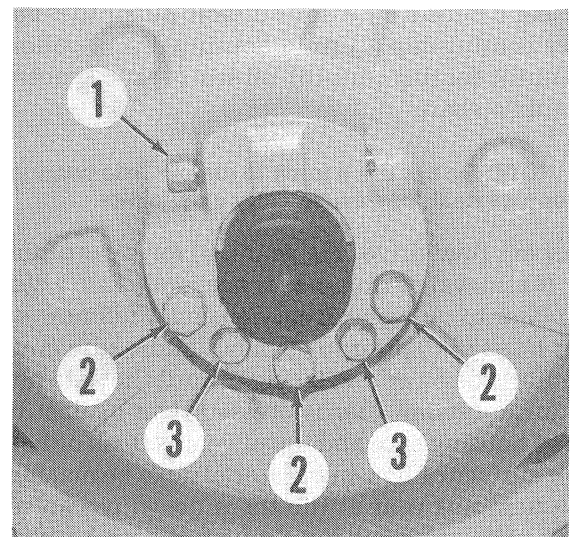

Fig. 191—View of rear wheel hub. Refer to text for removal procedure.
follows: Rotate wheel until rack teeth on axle shaft face upward. Remove snap ring from end of axle. Loosen the three retaining bolts (2—Fig. 191) in wheel hub, then tighten the two jack screws (3) evenly to loosen hub sleeve. If sleeve is difficult to break loose, apply penetrating oil to sleeve, strike end of axle with a heavy hammer and retighten jack screws evenly until sleeve loosens. Turn pinion gear (1) to slide wheel off the axle.
Tighten cap screws securing Sound-Gard mounts to 150 ft.-lbs. (203 N·m) and Sound-Gard body mounting bolts to 150 ft.-lbs. (203 N·m). Complete installation by reversing the removal procedure. Tighten wheel hub sleeve retaining bolts (2—Fig. 191) to 300 ft.-lbs. (405 N·m) torque. Drive the tractor about 100 yards (100 meters), then retorque the three bolts to 300 ft.-lbs. (405 N·m).